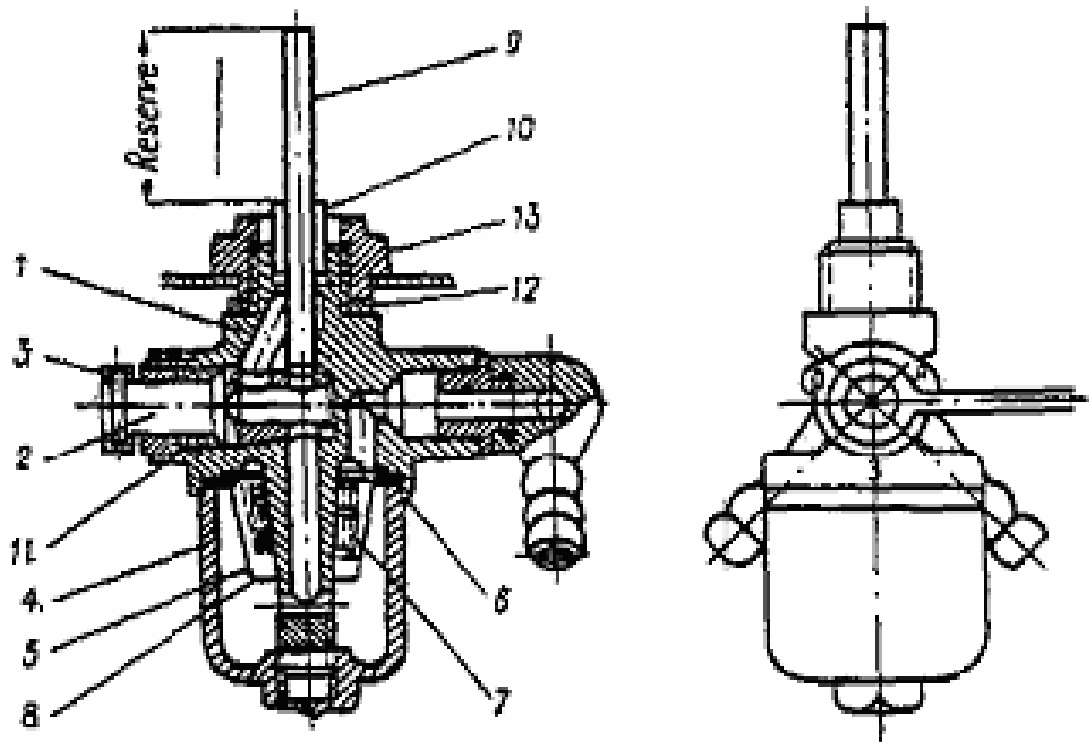

Fig 4
2. The gasoline petcock open, which levers turn to the right on the letter O - open - (fig. 4).